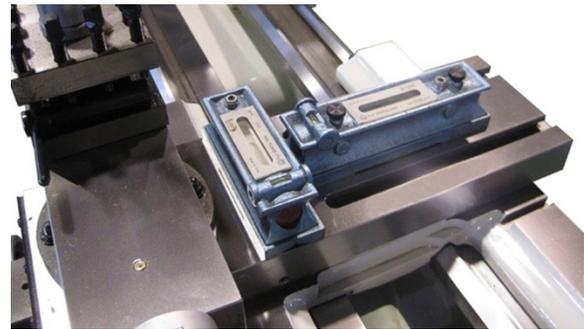

Figure 7-4: Leveling
- Check for level condition using a machinist's precision level on the bedways, both front-to-back and side-to-side (see Figure 7-4). Take the reading in one direction every ten inches. Make sure the ways are clean and free of any debris before placing a level upon them.